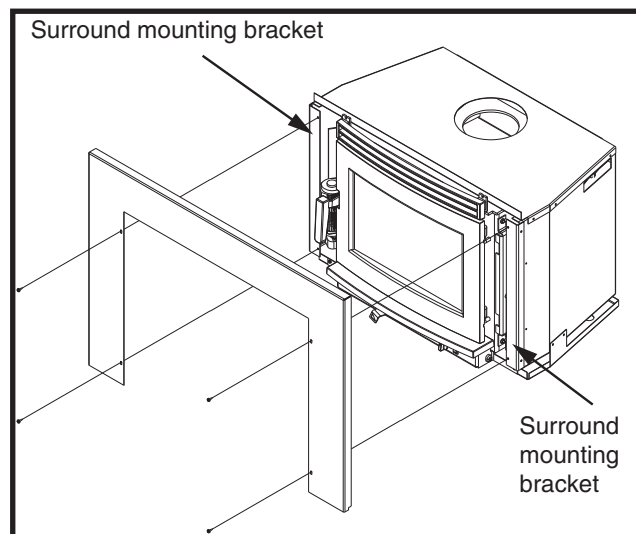

Figure 12: Surround mounting brackets.
1. Attach the surround back to the surround mounting brackets on the unit with the four screws provided (Figure 12).